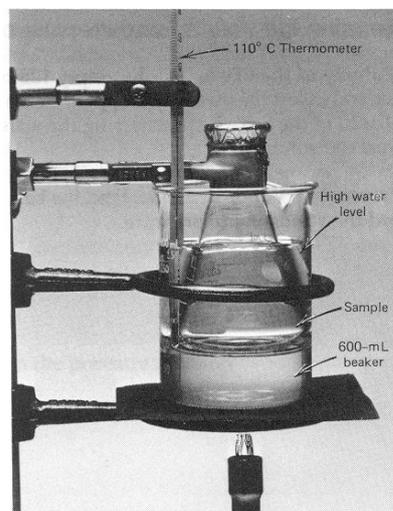

Figure 3.2. Apparatus for determining the formula mass of the volatile liquid
1. Place the Flask/Sample in the Bath. Remove the heat from the boiling water bath. Lower the flask/sample in the bath and secure it with a utility clamp. Be certain that neither the flask or the clamp touches the beaker wall. Adjust the water level *high* on the neck of the flask (Figure 3.2).